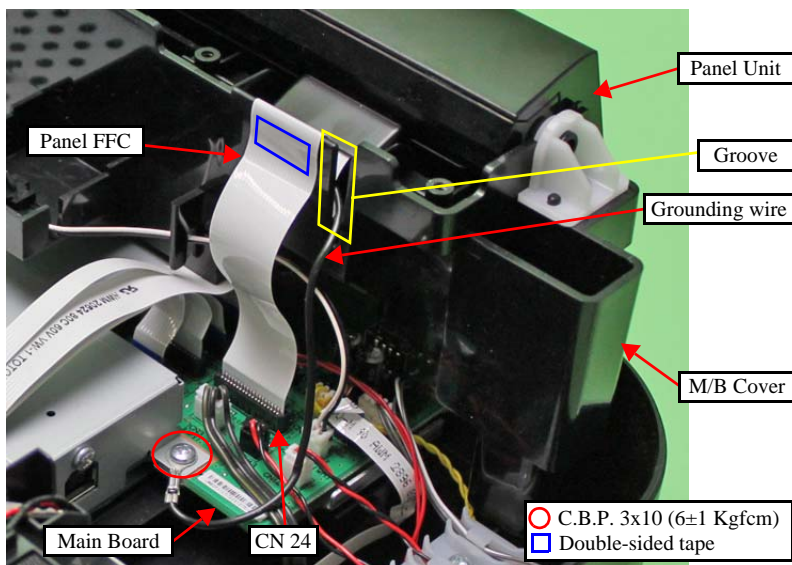

Figure 8-6. Removing the Panel Unit (1)
- Route the grounding wire through the groove of the M/B Cover as shown in Fig. 8-6 and secure it to the Main Board with the screw.